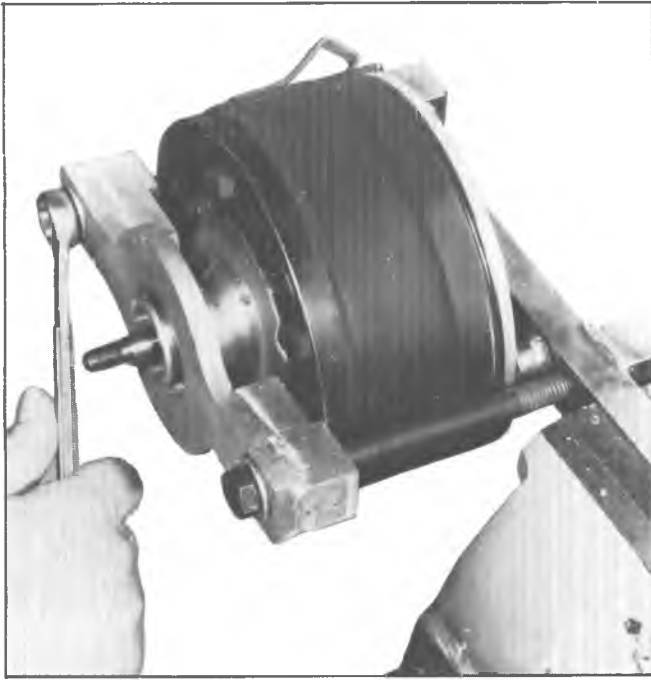

Fig. 95--Installing Shell Assembly
6. Push compressor shell as close to "O" ring (Fig. 95) as possible by hand and check for equal alignment of shell around cylinder. Tighten fixture screws finger tight.